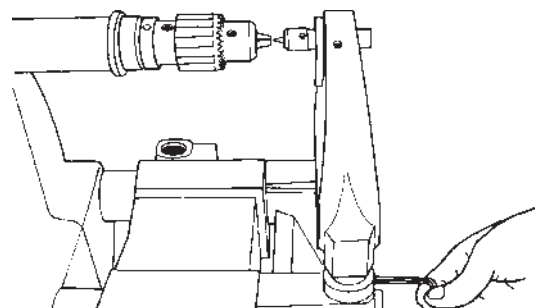

Figure B-118
- b. To adjust the cup center point **vertically**, loosen the mount lock, then loosen the tailstock stop collars. Raise or lower the tailstock in the base mount until the cup center point vertically lines up with the drill chuck, then tighten the mount lock. Press the stop collars down firmly against the base mount and tighten the collar set screws, as shown in Figure B-118.